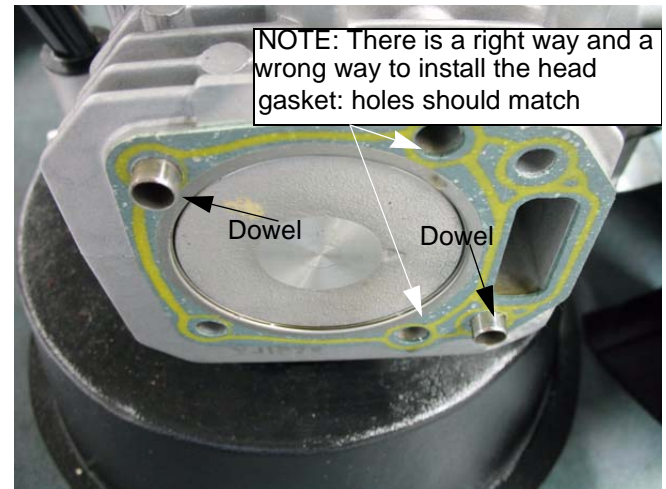

**Figure 12.14**
12.14. Only the intake valve has a valve guide seal. See Figure 12.14.